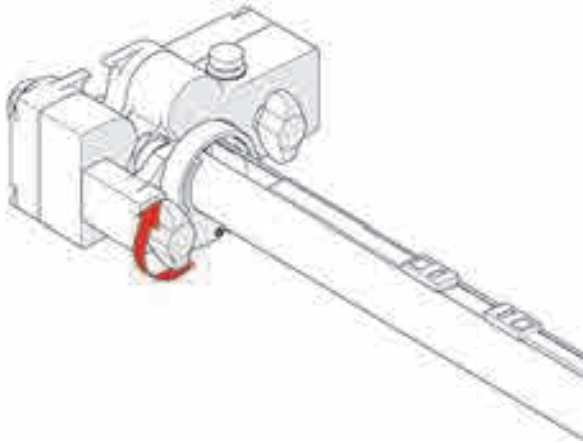

Figure 4-129 Tighten wing knob
2. Tighten the cable management clamp wing knob (see Figure 4-129 on page 190).